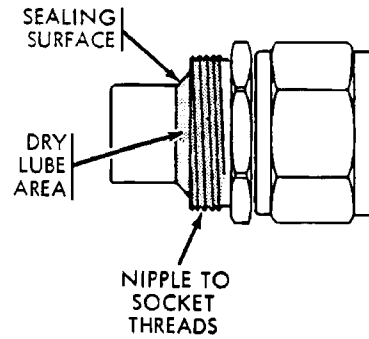
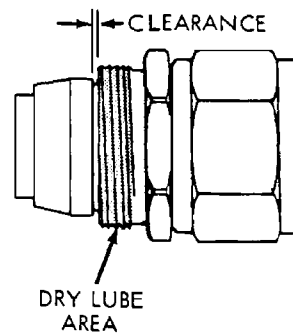

Figure 25: Sealing surface of nipples
Figure 26: Nipple assembly
1. (1) Visually inspect the sealing surface of nipples (see **Figure 25**) for damage or galling and condition of dry film lubricant.
2. (2) Visually check for galled threads (nipple to socket thread) and test by threading a new socket of proper size onto the nipple threads.
3. Test for overtorque by placing a new sleeve on the nipple in the normal assembled position. Check for clearance between the sleeve and nipple faces. See **Figure 26**.
5. (5) Scrap damaged nipples or nipples with no clearance. See **Figure 26**.